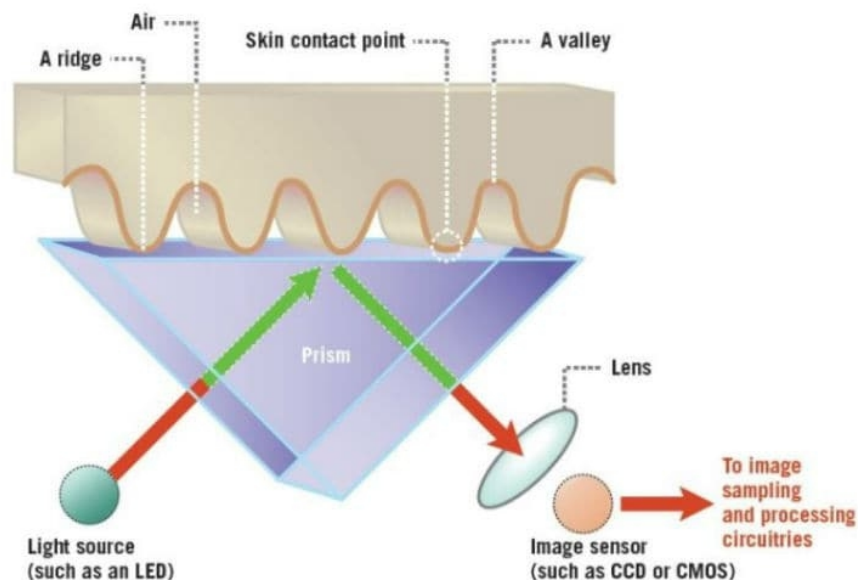

Figure 1: Light source taking a digital image of a fingerprint.
- Optical fingerprint sensors have been around for a while. The way an optical scanner works is by shining a bright light over your fingerprint and taking a digital photo. The light-sensitive microchip makes the digital image by looking at the ridges and valleys of the fingerprint, turning them into 1's and 0's, and creates the user's own personal code. Figure 1 shows how the light source reads the fingerprint and where that information goes. The disadvantage to this, while highly unlikely, is that a digital photo can be replicated.